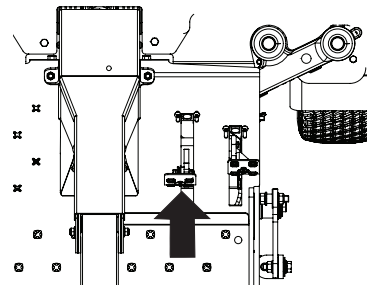

Fig. 28
1. Slowly push the forward drive pedal forward. The mower will start to move forward (Fig. 28).